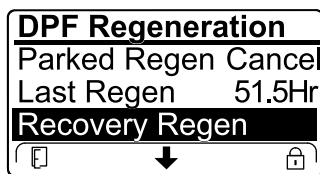

Figure 25
- If the engine computer has not requested a recovery regeneration and you scroll down to the RECOVERY REGEN option, the recovery regeneration locks and the lock icon (Figure 25) appears in the lower right corner of the InfoCenter.